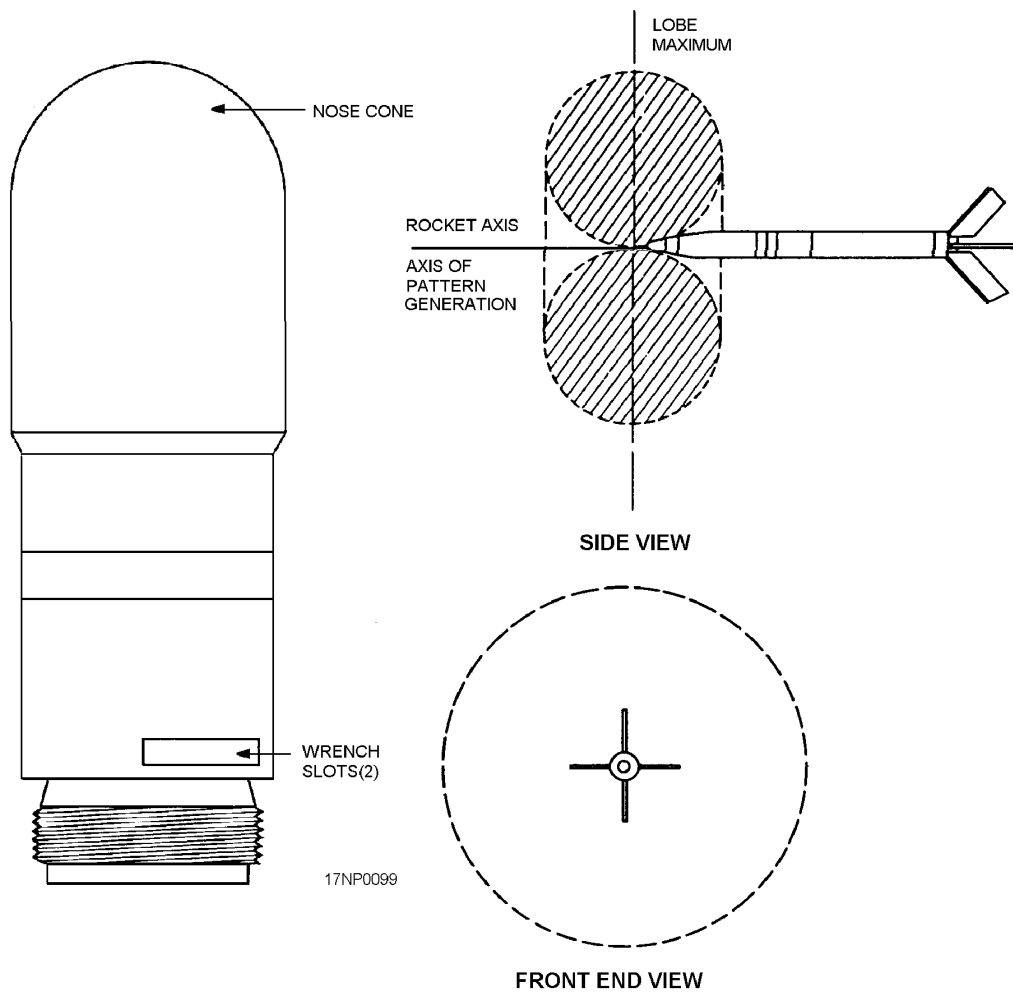

Figure 2-14.—Proximity fuze.
**PROXIMITY FUZES.**—Proximity fuzes, sometimes referred to as VT fuzes (fig. 2-14), initiate by "sensing," usually by electronic means, the presence and distance of a target. Proximity fuzes are primarily used in air-to-ground operations where air bursts above the target are desired. They are not suitable for use against targets that require penetration and detonation within the target for effective destruction.